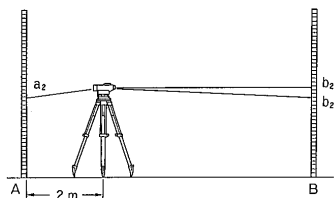
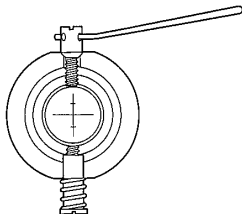

Fig.7.6
Fig. 7.8
- 2) Set the instrument at a point 2 m from point A. Take readings a_2 and b_2 . (Fig.7.6)
- 4) Use the adjusting pin to eliminate the difference between b_2' and b_2 . (See "11. STANDARD EQUIPMENT".) In the example shown in Fig. 7.6 b_2 is larger than b_2' . The horizontal line needs to be lowered. To lower the horizontal line, carefully loosen the adjusting screw by a small amount using the adjusting pin ⑬. To raise the horizontal line, tighten the adjusting screw. (Fig. 7.8)